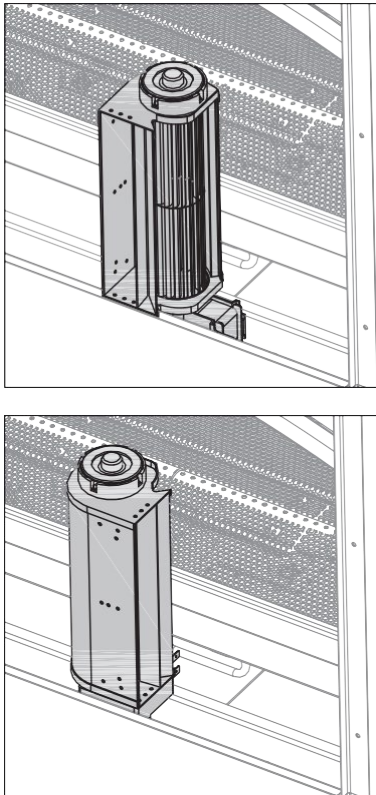

Figure 9.4, Steps 3 and 4
6. Position fan as shown in Figure 9.4. As you rotate the fan towards you, the upper edge of the fan discharge will lock behind the top edge of fireplace air channel opening, securing fan into place. **DO NOT LET THE FAN REST ON ANY ELECTRICAL CORDS.**